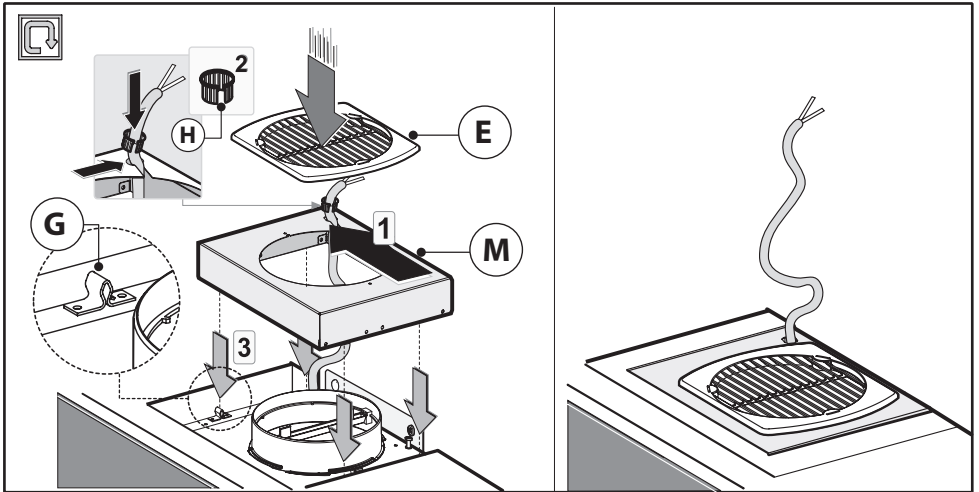

Fig.6
- Pass the power supply cable through the slots of the small cupola **M** as shown in Fig. 6.
- Fasten the small cupola **M** and the grille **E** making sure that it is perfectly hooked on to the fastening pins **G**. (Fig. 6).